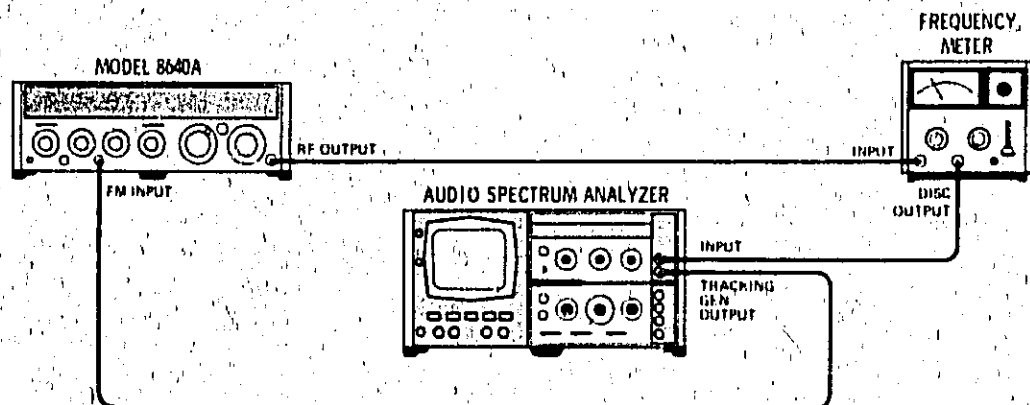

Figure 4-15. FM Bandwidth Test Setup
1. Connect equipment as shown in Figure 4-15 after setting Signal Generator's controls as follows: